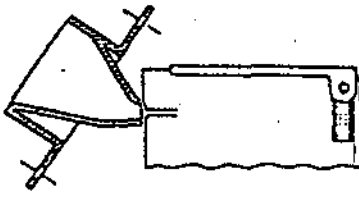
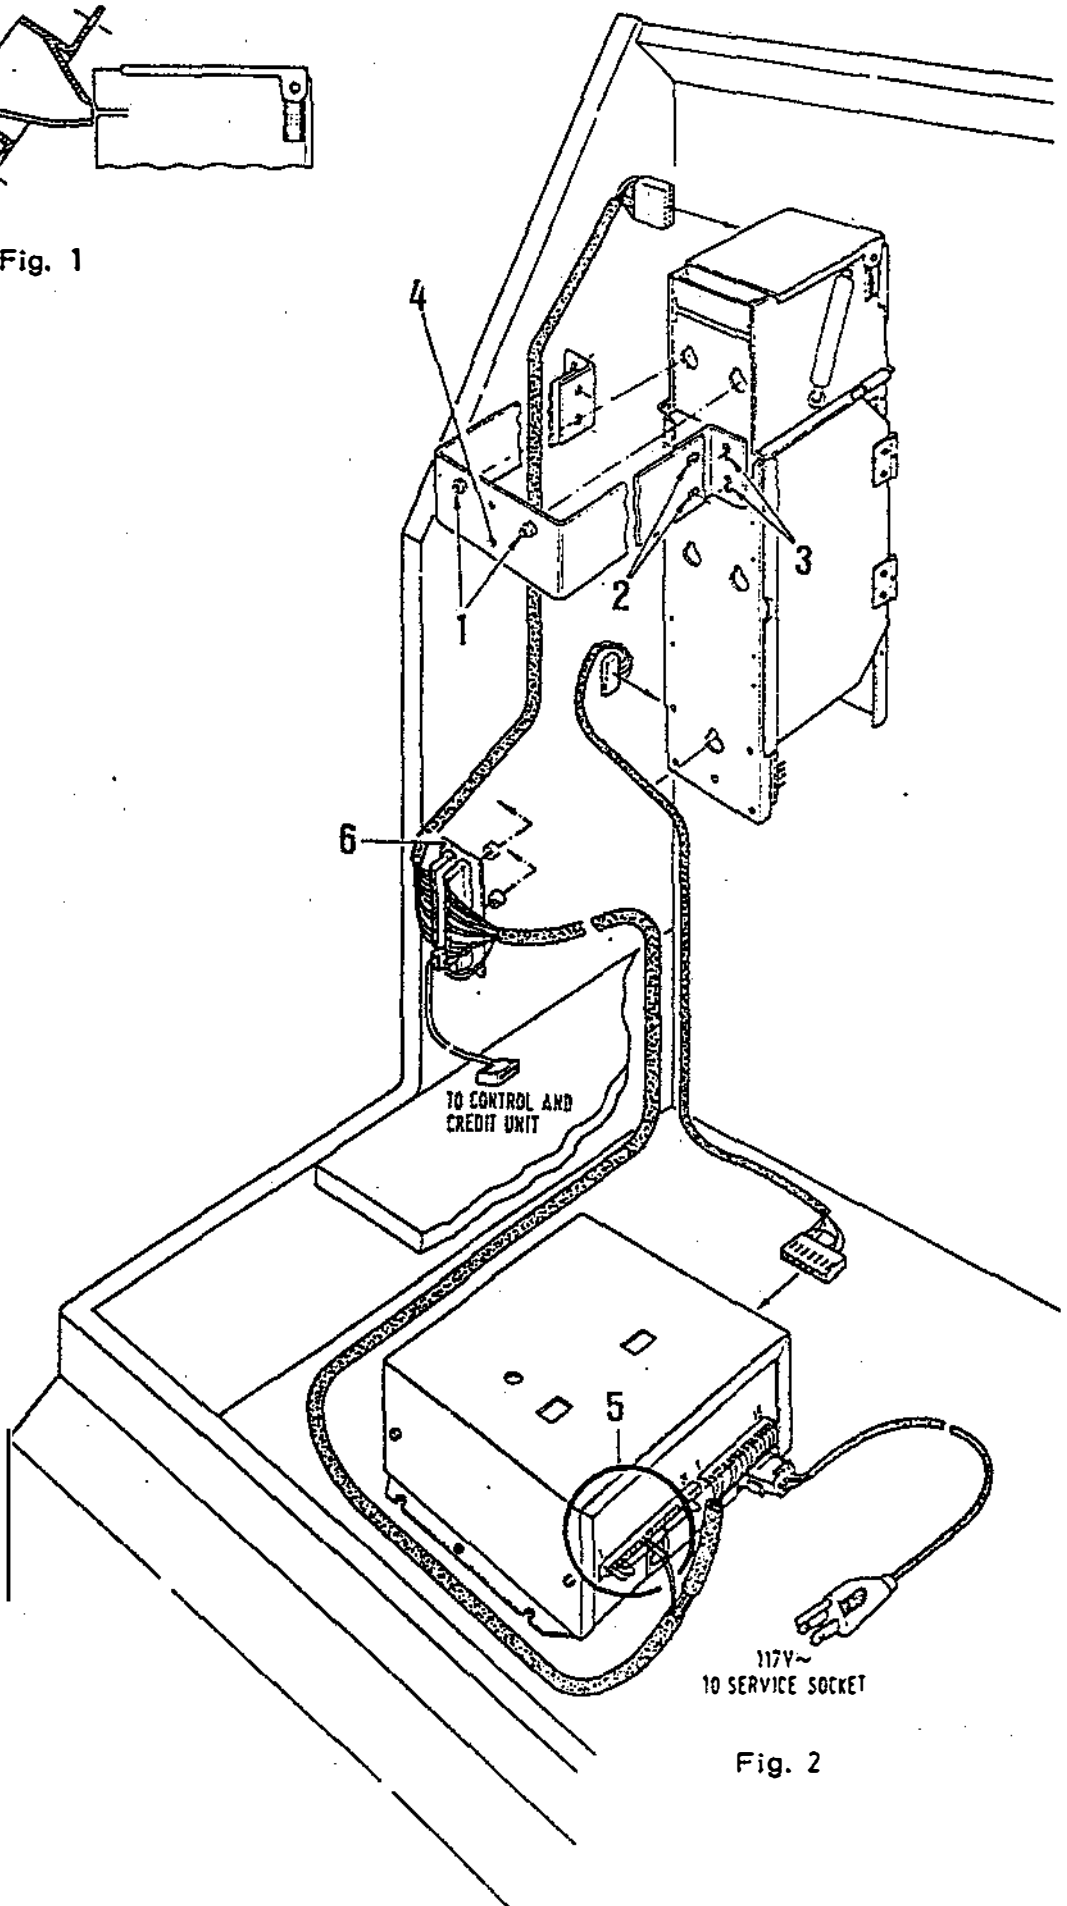

Fig. 1
Fig. 2
- Install chute in place of cover in lid (see Fig. 1).
- Hang dollar bill validator into the 2 attachment studs (Fig. 2 / Pos. 1).
The depth can be adjusted at Fig. 2 / Pos. 2.
The height should be adjusted at Fig. 2 / Pos. 3 so that the dollar bill validator is aligned with the chute in the lid and is guided exactly into the acceptor slot (Fig. 1).
Secure dollar bill validator with sheet metal screws F 3.9 x 6.5 at Fig. 2 / Pos. 4.
- Install dollar bill adapter PCB (Fig. 2 / Pos. 6) on 2 spacers with wood - screws to the left inside of cabinet.
- Put 2 contacts from the harness (as can be seen in Fig. 2 / Pos. 5) into Plug Housings 6 and 7 of the 21-pole plug.
- Move stacker backwards into its final position until the latch (Fig. 1) locks in at the second position.